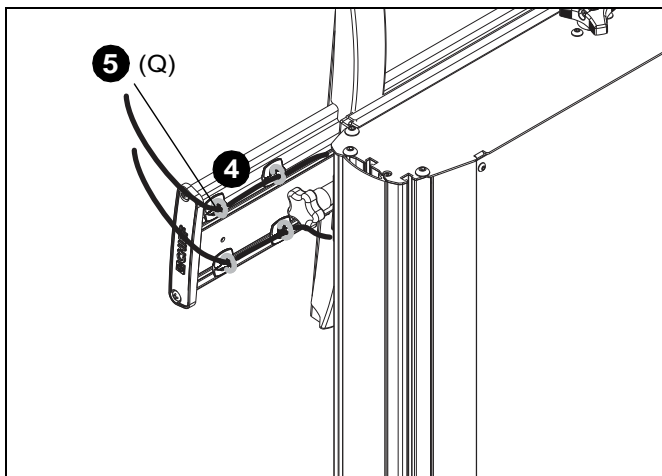

Figure 17
4. Route cables along FCA clips (P) to be used for cable management. (See Figure 17)
5. Use cable ties (Q) to secure cables to FCA clips. (See Figure 17)